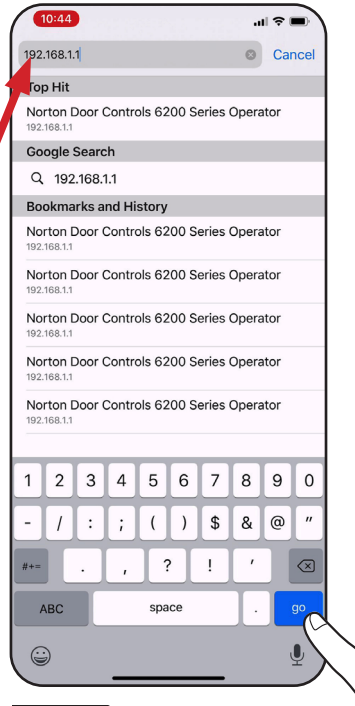

Figure 14
- From your web browser, enter 192.168.1.1 into search bar. (Figure 14)